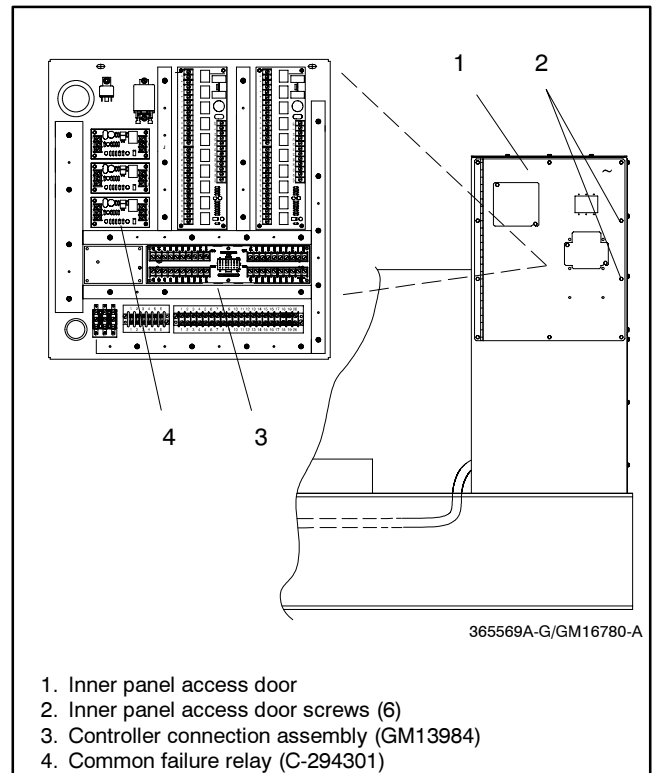

Figure 4 Terminal Block Bracket Mounting in Junction Box (450–2000 kW)
- 2.3.3 Attach the controller connection assembly (GM13984) to the junction box bracket studs using six spacers (X-712-9) and nuts (X-70-12). Place the spacers between the controller connection assembly and the mounting bracket. See Figure 4 for the mounting location.
3.3.1 Mount the common failure relay (C-294301) to the junction box bracket studs using four spacers (X-712-9) and nuts (X-70-12). Place the spacers between the common failure relay and the mounting bracket. See Figure 4 for the mounting location.